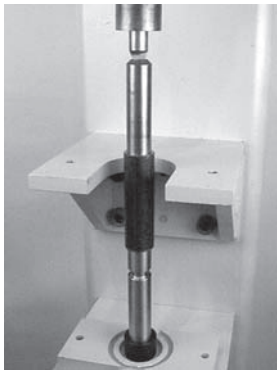

Figure 63
6. Using an arbor press or similar device, press bearing onto pulley shaft (**Figure 63**).